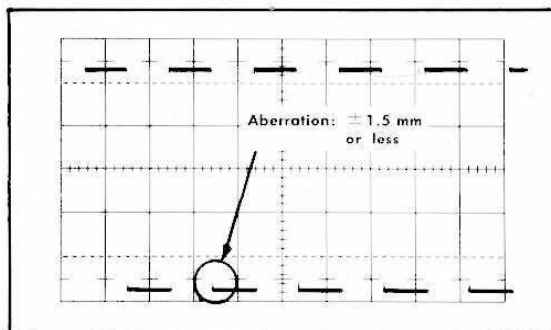

Fig. 5-3. Typical display obtained when checking cross neutralization.
f. Check—Waveform deviation from that observed in step d, at the upper leading corner of the waveform. Deviation should be no greater than $\pm 3\%$ (± 1.5 mm for a 5 cm waveform). Similar to Fig. 5-3, except that the upper corner is the point at which the check is made.
h. Check—Deviation of the lower leading corner of the waveform. See Fig. 5-3.